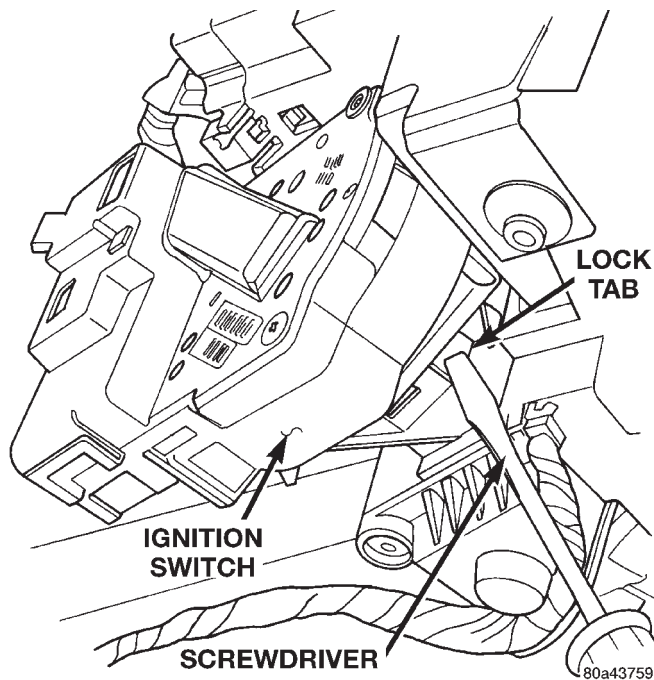

Fig. 41 Ignition Switch Lock Tab
(4) Using a small screwdriver, push on locking tab (Fig. 41) and remove switch from steering column.